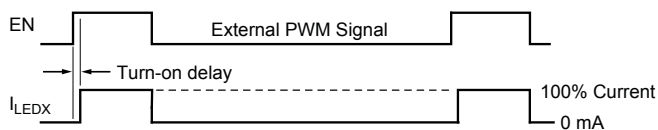

Figure 2. Timing diagram of external PWM signal and LED current
- PWM dimming using the EN pin. PWM dimming is performed by applying an external PWM signal on the EN pin. When the EN pin is pulled high, the A8501 turns on and all enabled LEDs sink 100% current. The sequence is shown in figure 2. For optimal accuracy, the external PWM signal should be in the range 100 to 300 Hz. The slight delay between PWM signal and the LED current causes an error. To compensate for the error, a small turn-on delay should be added to the PWM signal as shown on page 10 of the Performance Characteristics section. When EN is pulled low, the boost converter and LED sinks are turned off. The compensation (COMP) pin is floated, and critical internal circuits are kept active. If EN is pulled low for more than t_{PWML}, the device enters shutdown mode and clears all internal fault registers. As an example, for a 2 MHz clock, the maximum PWM low period while avoiding shutdown is 65 ms.